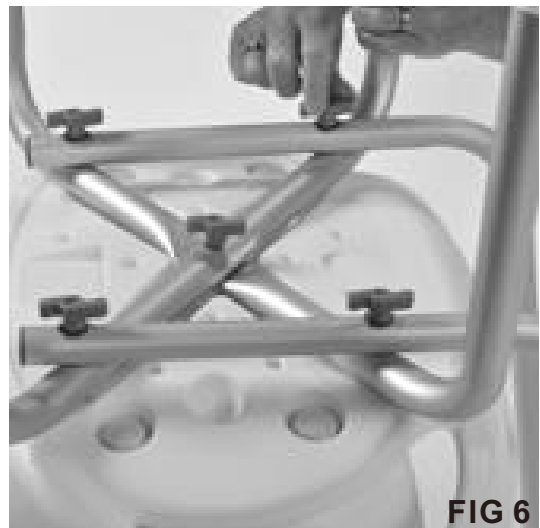

FIG 6
- Repeat process of fastening Back-Rest Support Bar and U-Shaped Leg Brace to underside of chair – with second Back-Rest Support Bar. (Refer to FIG 6).